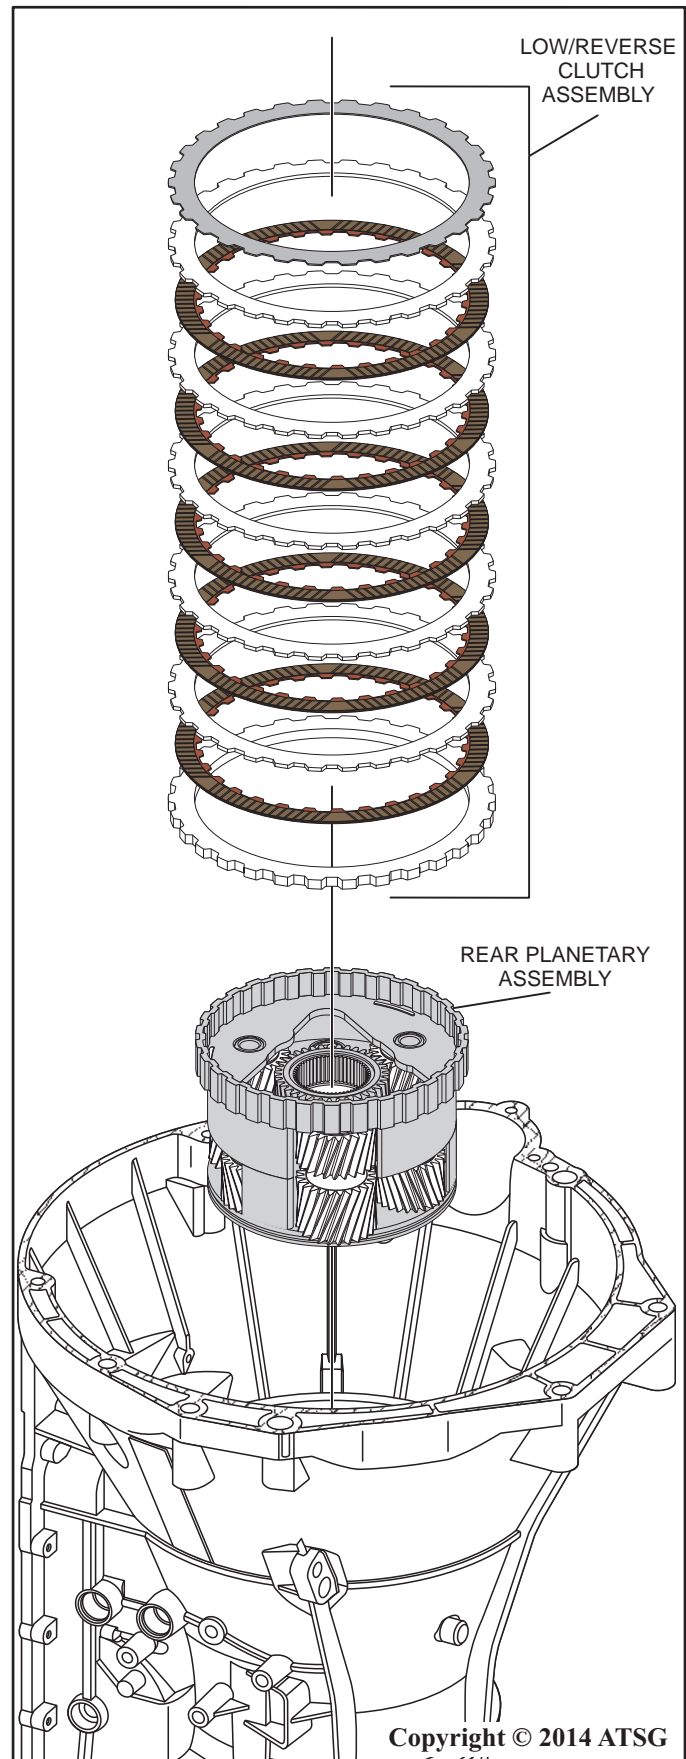

Figure 54
36. Remove the rear planetary assembly and the low/reverse clutch together as shown in Figure 54 then set aside for disassembly and cleaning. There may be remaining frictions and steels in the case. If so, remove them as well at this time.